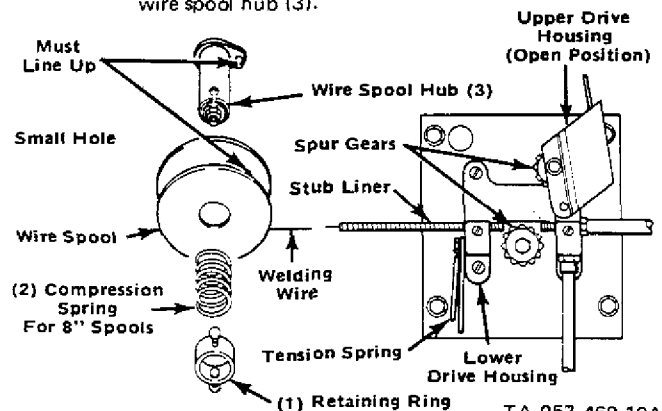

Figure 3-11. Wire Spool Installation TA-057 469-19A
3. Remove the retaining ring (1) (Figure 3-11) by pressing the two spring loaded pins inward, remove compression spring (2) from the welding power source wire spool hub (3).
4. Place the wire spool on the wire spool hub so the wire feeds from the bottom of the spool into the stub liner as shown in (Figure 3-11). Insure that small pin of the spool hub fits into the small hole of the wire spool.
5. Replace the retaining ring on the hub. Compression Spring (2) not required for 12" spools. For 8" spools, use compression spring.
- Disengage tension spring on drive assembly and open upper drive housing as shown in Fig. 3-11.